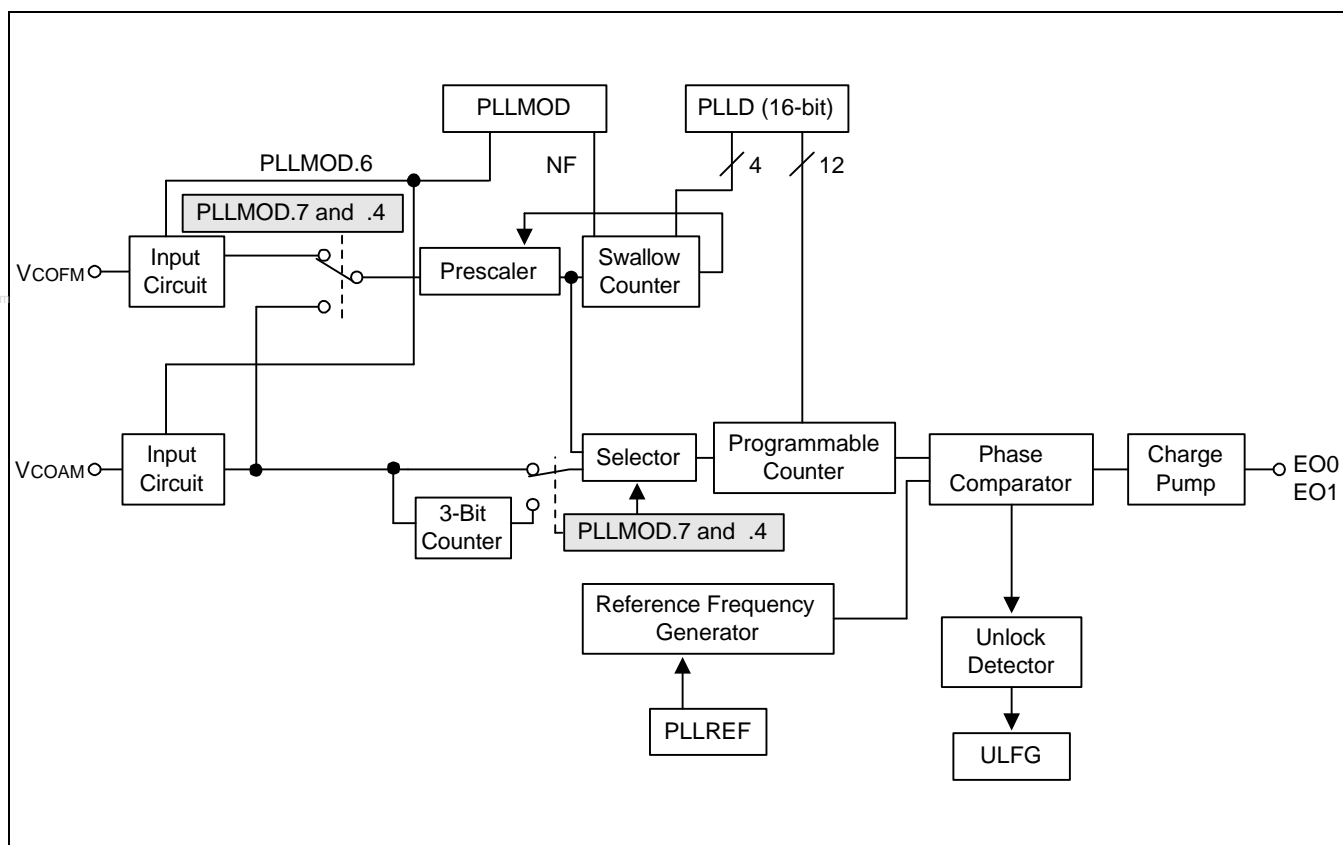

Figure 18-1. Block Diagram of the PLL Frequency Synthesizer
The phase locked loop (PLL) frequency synthesizer locks medium frequency (MF), high frequency (HF), and very high frequency (VHF) signals to a fixed frequency using a phase difference comparison system. As shown in Figure 18-1, the PLL frequency synthesizer consists of an input selection circuit, programmable divider, phase detector, reference frequency generator, and a charge pump.